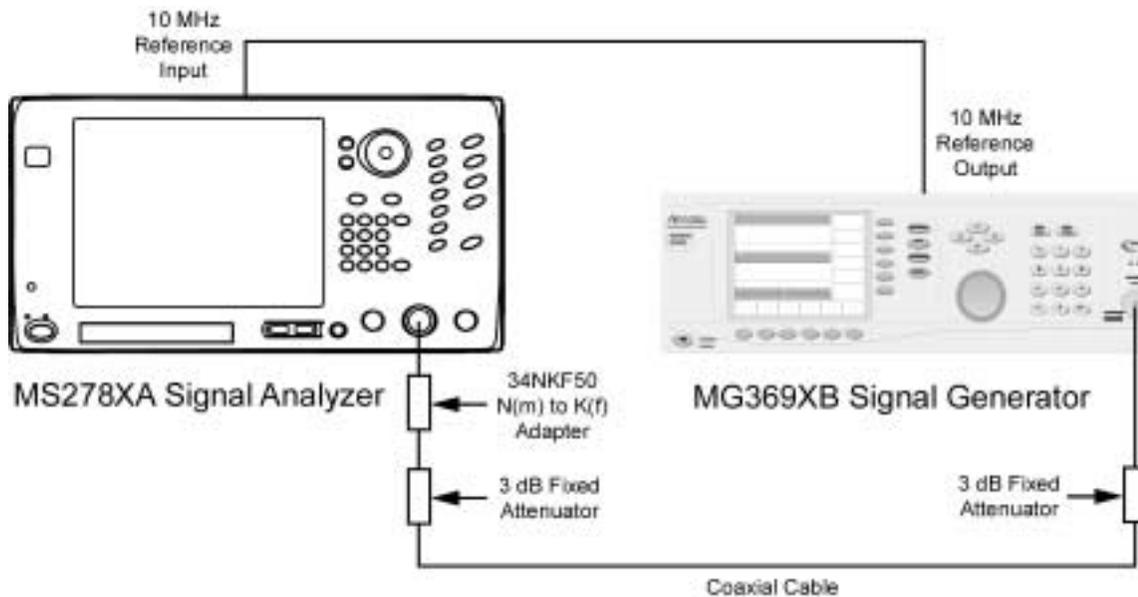

Figure 3-4. Equipment Setup for Swept Resolution Bandwidth Test
- Step 1.** Set up the instruments as shown in Figure 3-4.